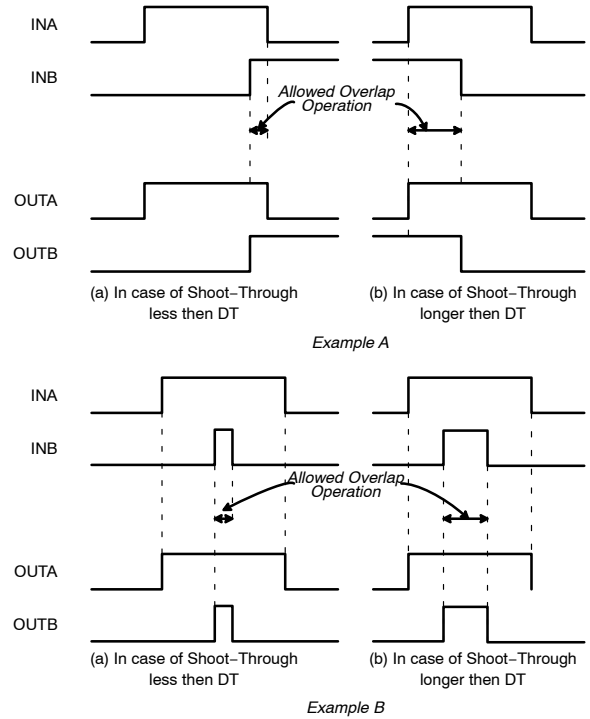

**Figure 56. Concept of Shoot-Through Prevention**
The cross conduction prevents both high- and low-side switches from conducting at the same time when the dead time (DT) control mode is in half-bridge type, as shown in Figure 56.